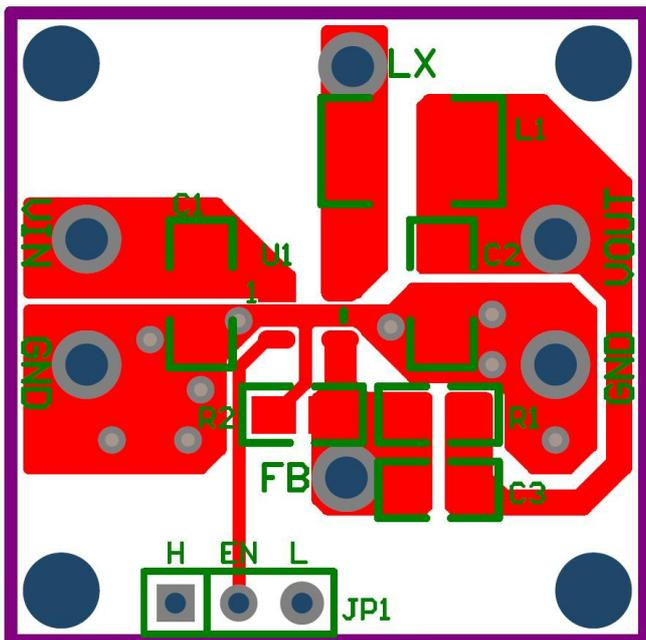

Figure5. Top Layer Layout
5. The following is an example of 2-layer PCB layout as shown in Figure 5 to Figure 6 for reference.